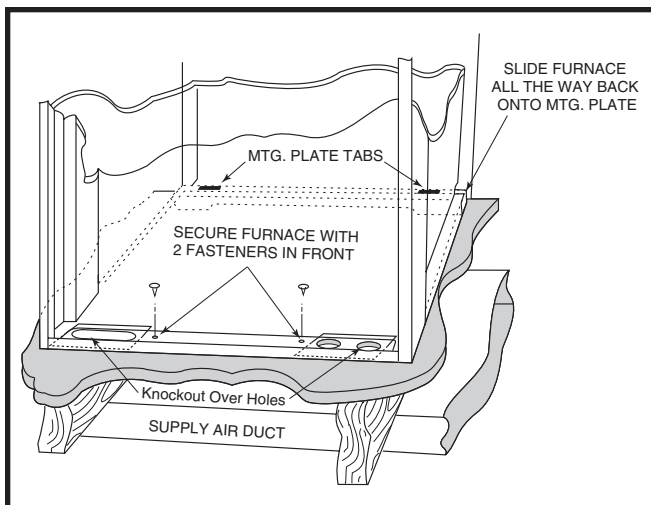

Figure 17. Cabinet Furnace on Supply Air Duct
4. Secure front with one (1) fastener at each corner. See Figure 17.